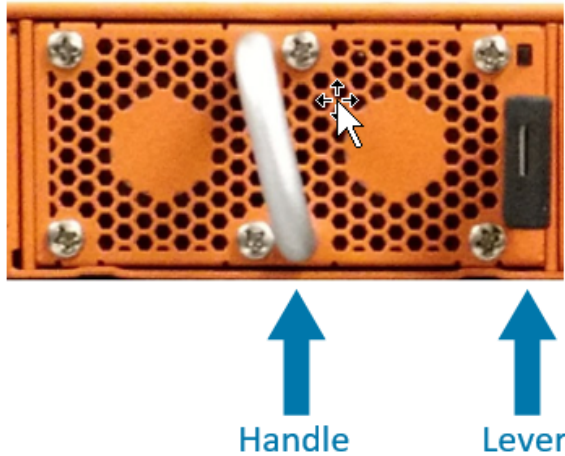

Figure 20 Replacing a Fan (GigaVUE TA Series-TA10 Shown)
1. Locate lever and handle as shown in Figure 20 Replacing a Fan \(GigaVUE TA Series-TA10 Shown\).